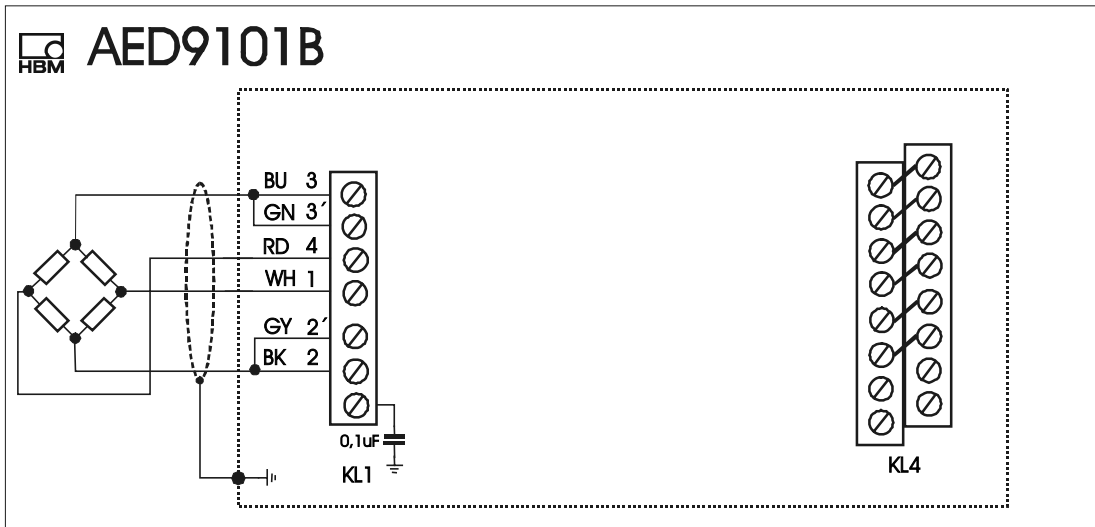

Fig. 3.1.4: Transducer connection in four-wire technology without cable extension (short circuit bridges 2 – 2' and 3 – 3'),
- Connection without an extension cable; sensor cable bridged on the transducer electronics (Fig. 3.1.4)